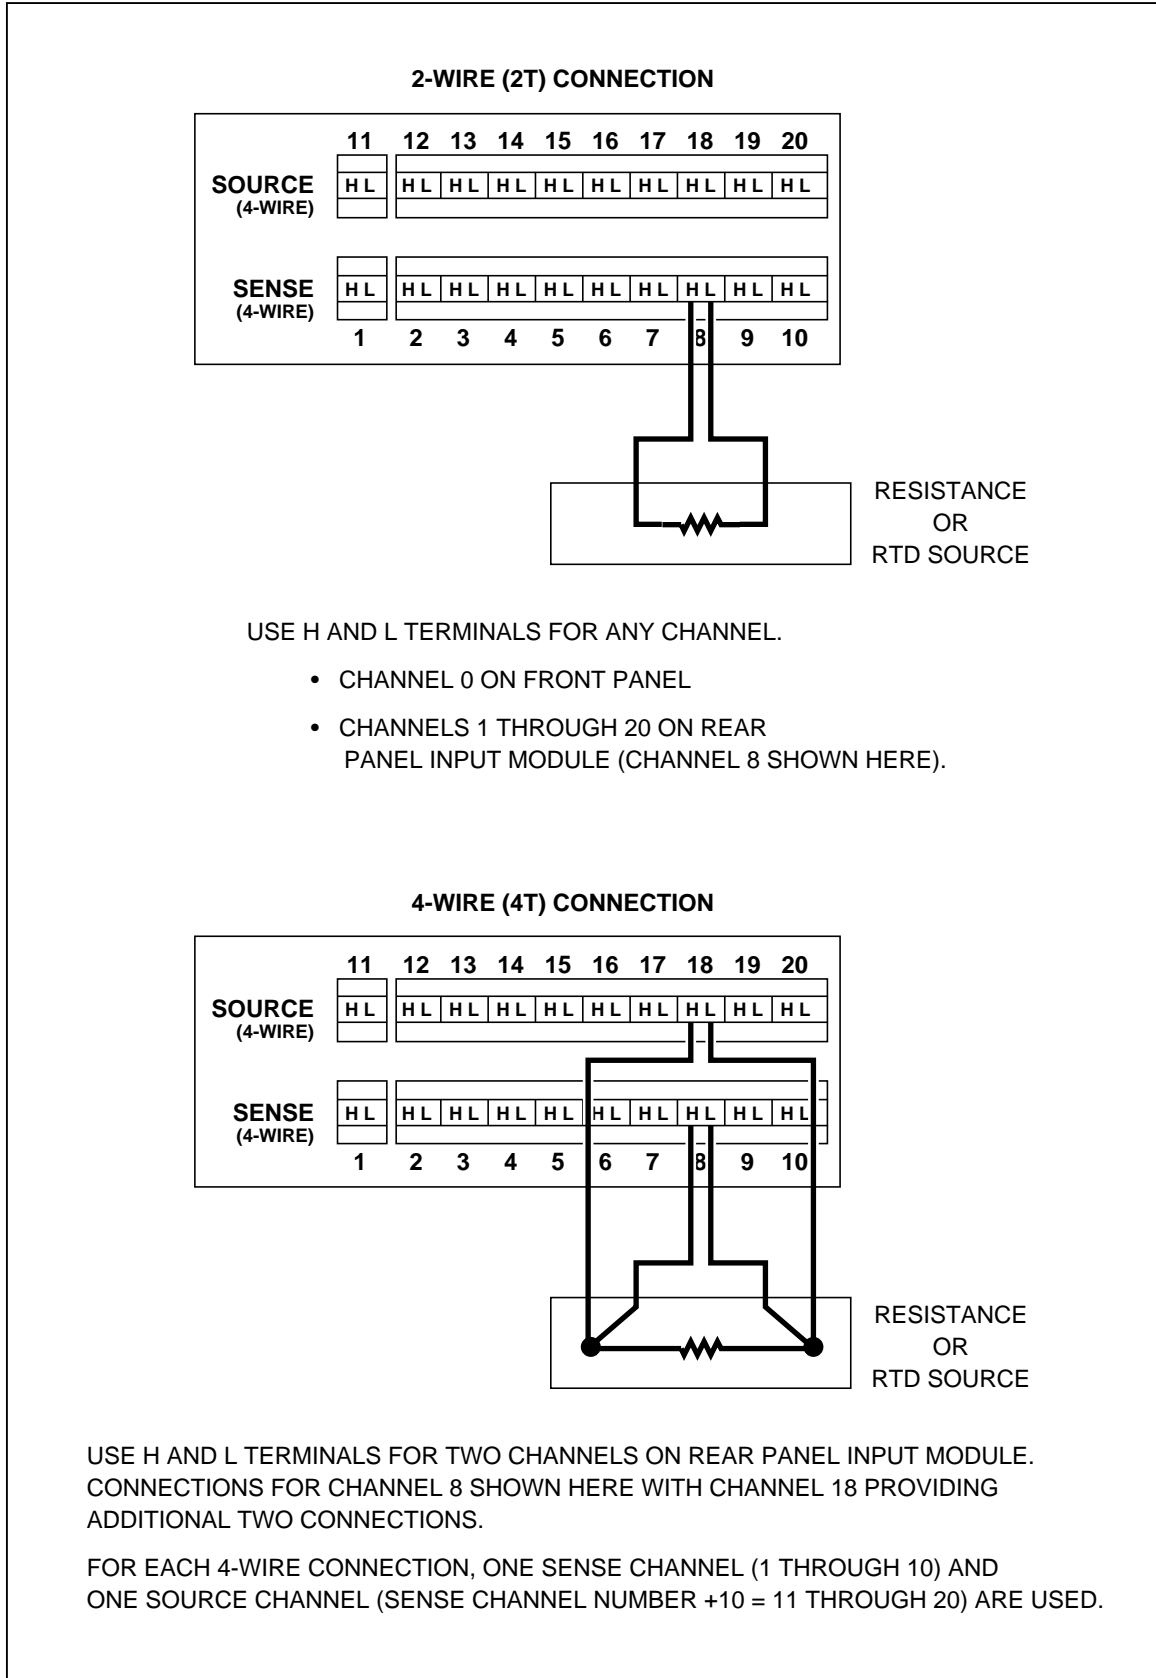

Figure 5-2. 2T and 4T-Connections
The instrument measures resistance in a 2-terminal configuration using a resistance ratio (sometimes called ratio-ohms) technique. Using only the high (H) and low (L) terminals for one channel, 2-terminal resistance measurements are simple to set up and yield good results for many measurement conditions. However, if lead wire and internal relay resistances are significant in relation to the resistances being measured, the 4-terminal configuration should be used. (Internal relay resistances are noted in Appendix A, Specifications.) A 2-terminal configuration is illustrated in Figure 5-2.
A 4-terminal configuration is illustrated in Figure 5-2.